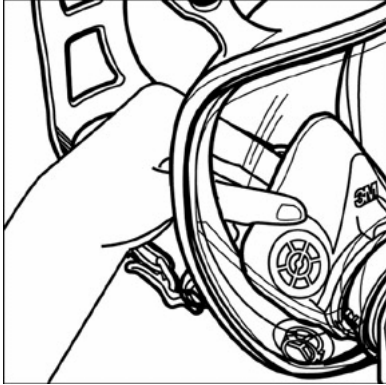

Fig. 15
1. Remove nose cup assembly (except in 3M™ Powerflow™ Systems) by pulling away from center adapter inside facepiece. (Fig. 15)
1. Remove the nose cup assembly by pulling away from center adapter inside facepiece. (Fig. 15)